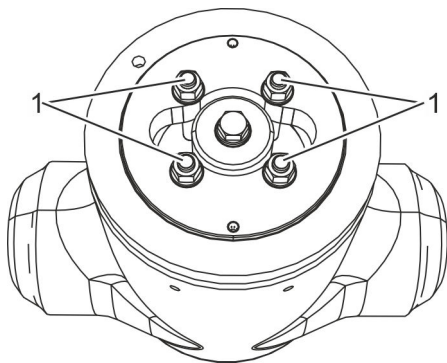

Fig. 29: Clamping lid
4. ➤ Retighten the clamping lid's nuts (Fig. 29/1) by hand.